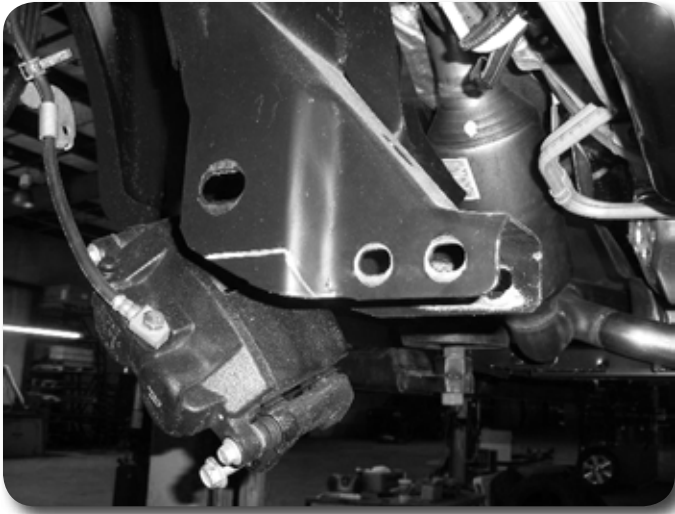

Figure 16
28. The passenger's side control arm pocket must also be trimmed. Measure down 1-3/4" and make a horizontal cut line. The cut will stop where the vertical offset begins, taper the cut as shown. Figure 16